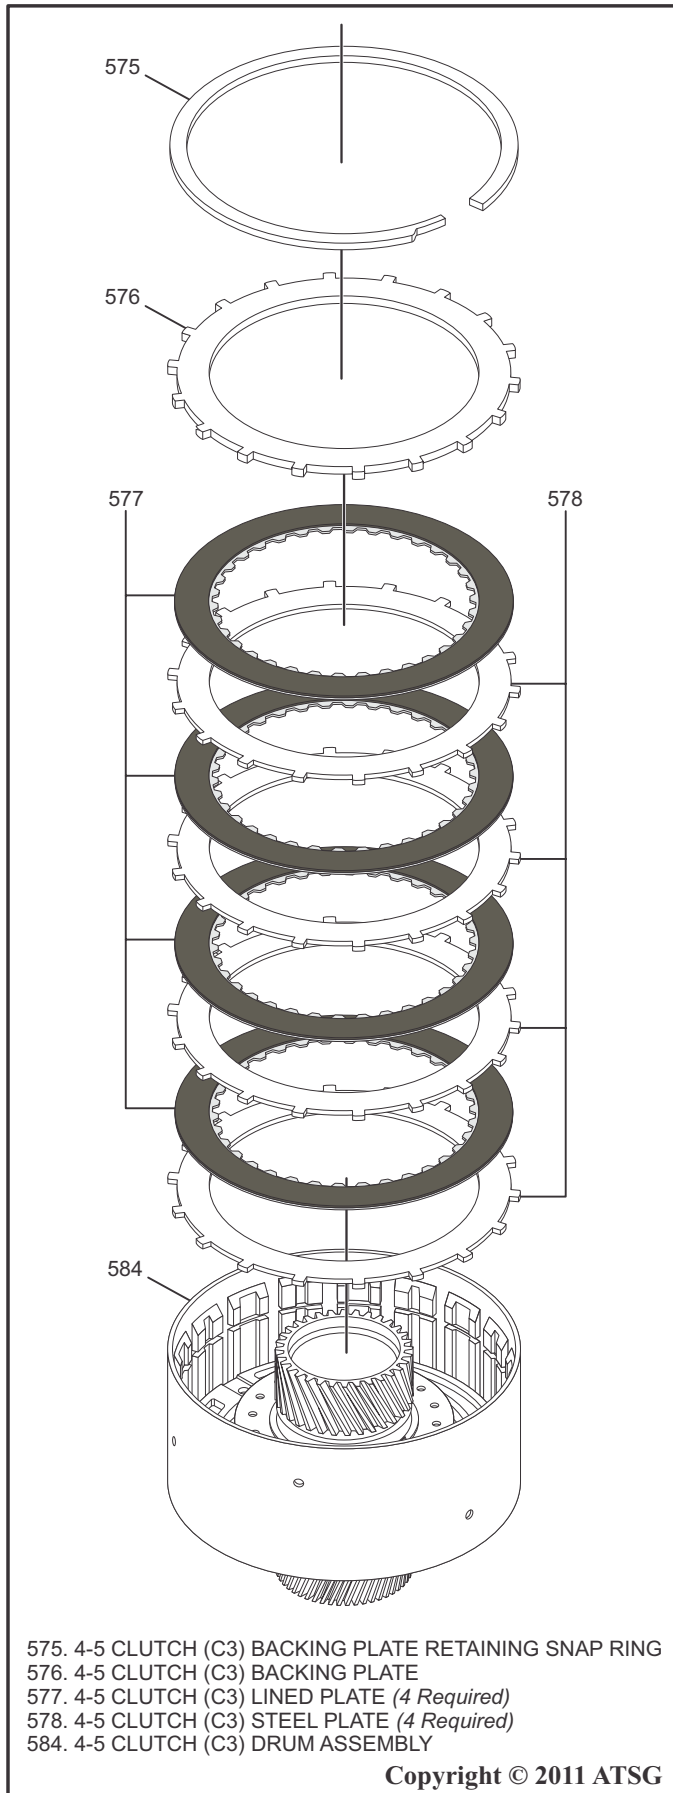

Figure 140
10. Starting with a Steel Plate and alternating Steel Plates and Lined Plates, install the 4-5 Clutch (C3) steel and lined plates into the 4-5 Clutch (C3) Drum as shown in Figure 140.
11. Install the 4-5 Clutch (C3) Backing Plate as shown in Figure 140.
12. Install the 4-5 Clutch (C3) Backing Plate Retaining Snap Ring as shown in Figure 140.